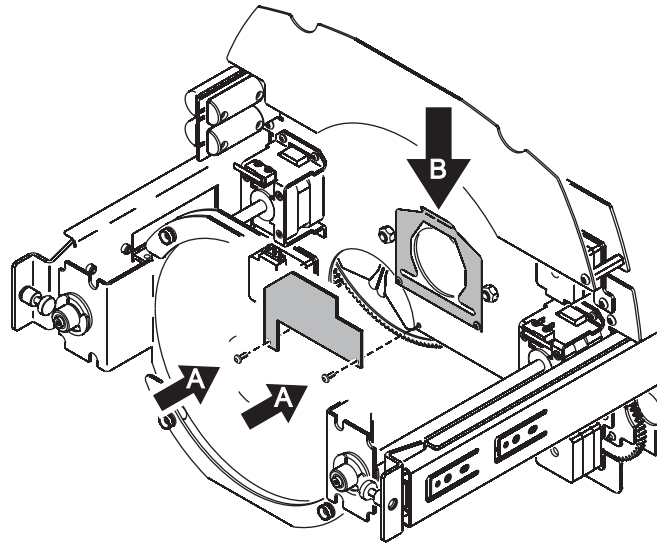

Figure 23: Filter replacement
2. See Figure 23. To install a permanent filter, slide the filter fully into the filter holder (**B**) so that it is held securely by the clip.